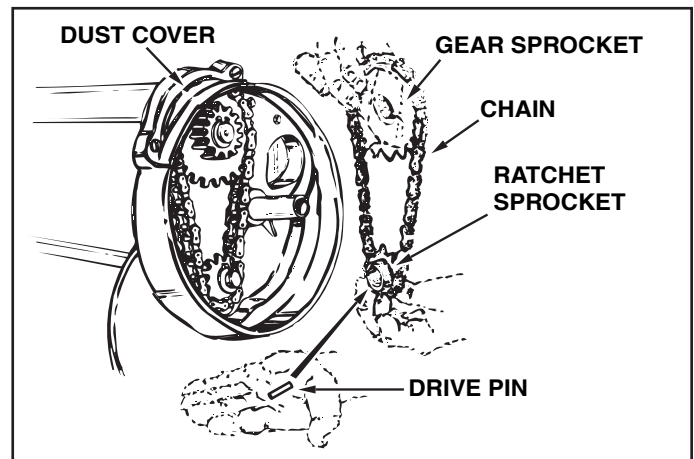

FIGURE 27
- Remove the chain and both sprockets, holding them in position and sliding them off both of the shafts. (Look for the drive pin, which may fall out of the brush shaft when the ratchet sprocket is removed.) See figure 27.